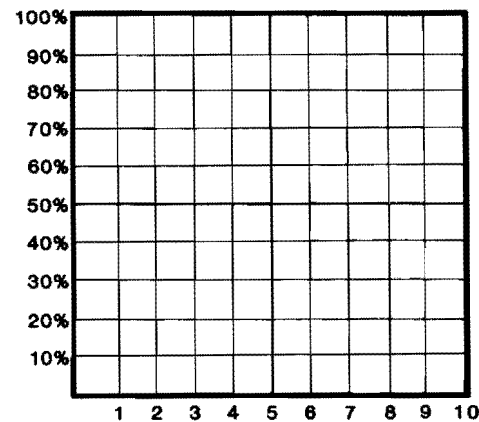

Figure 3-43 Plot the charging of the capacitor.
20. Again, assume the source voltage is changed to 100 volts DC. Plot the capacitor's charge current in Figure 3-43 against the capacitor's charge time for the parallel circuit referred to in Step 8.